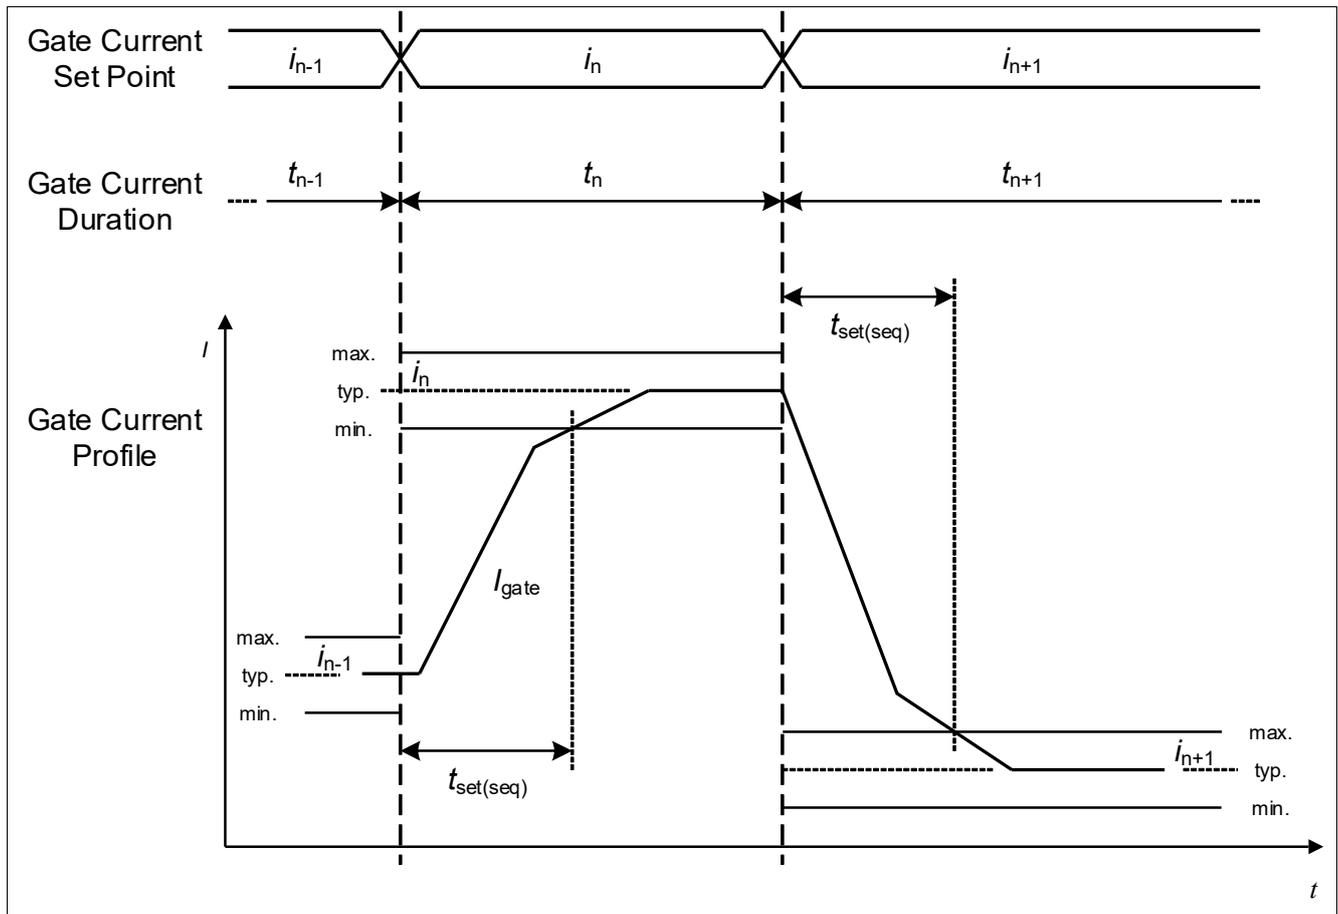

Figure 38 Gate current settling time
- At the transition between two gate current set points the actual gate driver output current settles within  $t_{set(seq)}$  to the new gate current set point (see **Figure 38**).